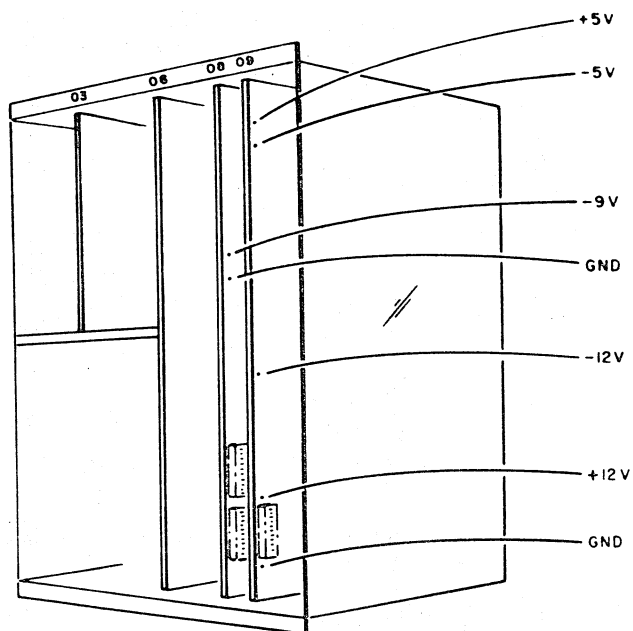

Figure 6-36. Memory and Processor Voltage Test Points
18. Apply the red (+) lead to GND (figure 6-36).
19. Apply the black (-) lead to the -9 V dc test point on board 08 (figure 6-36).
22. Apply the black (-) lead to the -12 V dc test point on the edge of board 09, just above test point 22, approximately 1.25 in. (31.75 mm) below the board midpoint (figure 6-36).
23. Apply the red (+) lead to GND (figure 6-36).
28. Apply the black (-) lead to GND (figure 6-36).
32. Apply the black (-) lead to -5 V dc test point on edge of board 09 (figure 6-36).
33. Apply the red (+) lead to GND on board 09 (figure 6-36).